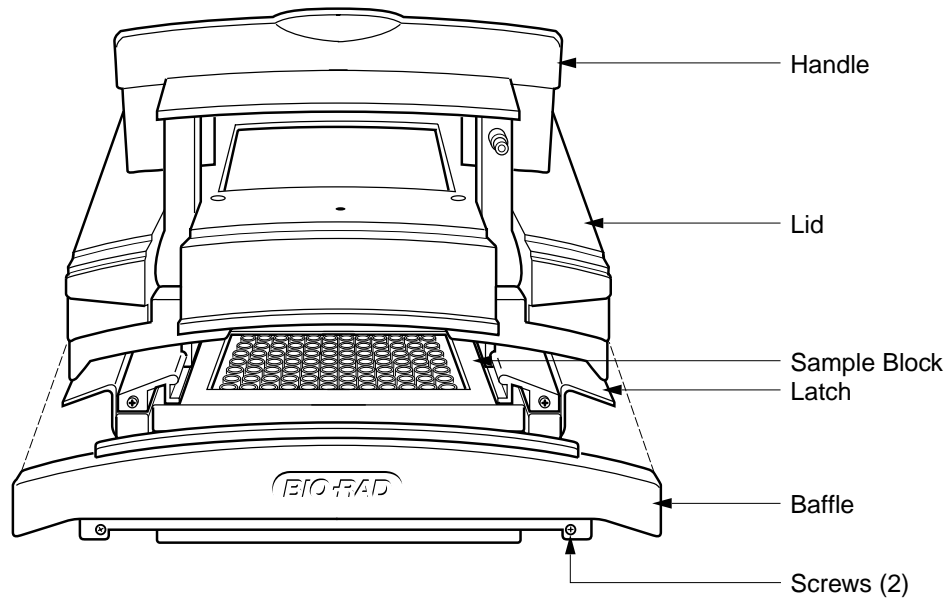

Fig. 2. Removing the Lid from the Reaction Module (front view).
To remove the top of the reaction module (see Figure 2):
10. Remove the baffle on the front of the reaction module by loosening the two screws on the front 1–2 turns with a Phillips screwdriver (see Figure 2). It is not necessary to remove the screws. Push up on the baffle to remove it.
5. Push the optical lid backwards; replace the front baffle and tighten the screws (see Figure 2.) Push the baffle down with gentle force to seat it. Check that it is flush with the bottom of the reaction module.